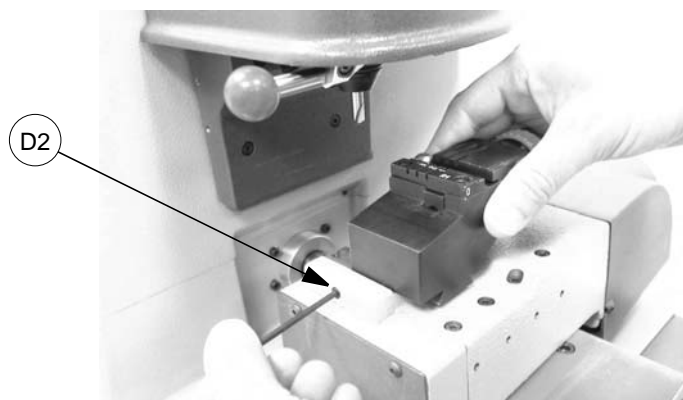

Fig. 14
- loosen the grub screw (D2) (fig. 14) and slide the clamp out of the dovetail groove.